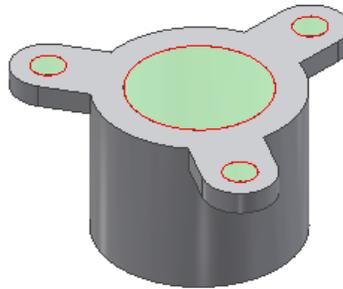

Figure 19-54 Preview of the patching surfaces
2. Choose the **Auto Detect** button available at the top of the dialog box; a preview of the patching surfaces is displayed in the modeling area, refer to Figure 19-54.